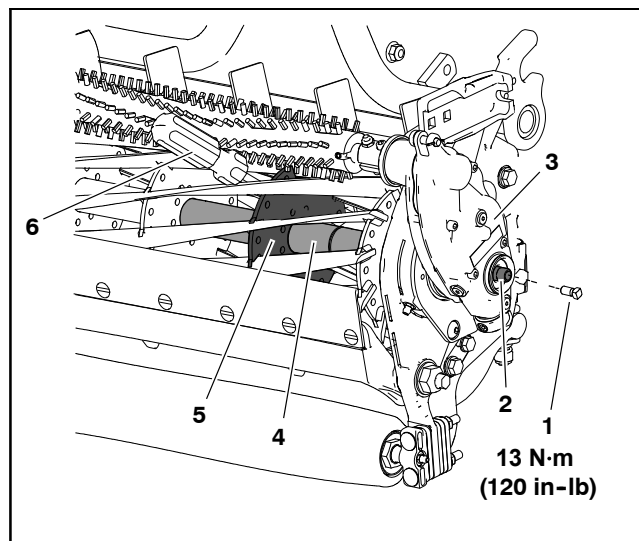

Figure 3
5. Install a 5/16–18 X 5/8 inch square head set screw (Toro p/n 1-803022) in the end of the drive shaft and tighten to 13 N·m (120 in-lb); refer to Fig. 3.